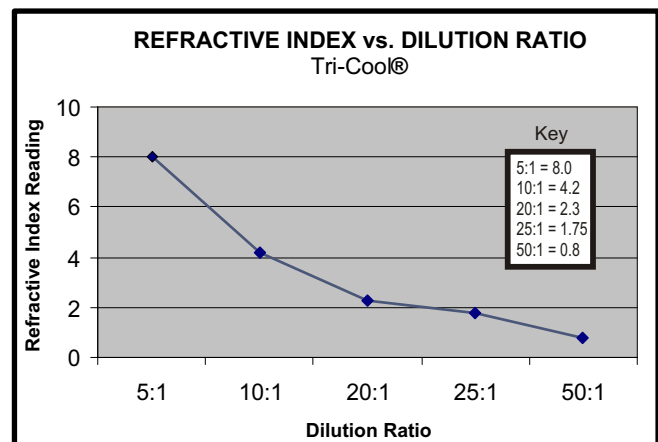

Figure 2
A refractometer is used to determine the dilution ratio of Tri-Cool TC-1. The refractometer takes light and bends it through the solution to give a reading on the Brix scale. The Brix scale measures the percent of sugar content in a given aqueous solution. Below is a chart that shows the refractive index vs. dilution ratio for Tri-Cool TC-1 (Fig. 2).
8. Refer to graph for actual concentration level of Tri-Cool TC-1 solution (Fig. 2).